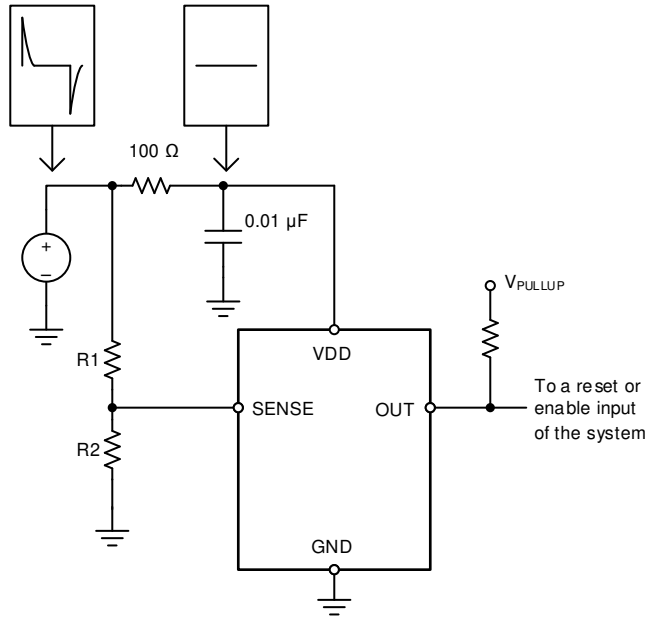

Figure 7-5. Using an RC Filter to Remove High-Frequency Disturbances on VDD
The TPS3711 has a 40-V absolute maximum rating on the VDD pin, with a recommended maximum operating condition of 36 V. If the voltage supply that provides power to VDD is susceptible to any large voltage transient that may exceed 40 V, or if the supply exhibits high voltage slew rates greater than 1 V/ μ s, then place an RC filter between the supply and VDD to filter any high-frequency transient surges on the VDD pin. In these cases, a 100- Ω resistor and 0.01- μ F capacitor are required, as shown in Figure 7-5.
- Avoid using long traces for the VDD supply node. The VDD capacitor (C_{VDD}), along with parasitic inductance from the supply to the capacitor, might form an LC tank and create ringing with peak voltages above the maximum VDD voltage. If long traces are unavoidable, see Figure 7-5 for an example of filtering VDD.